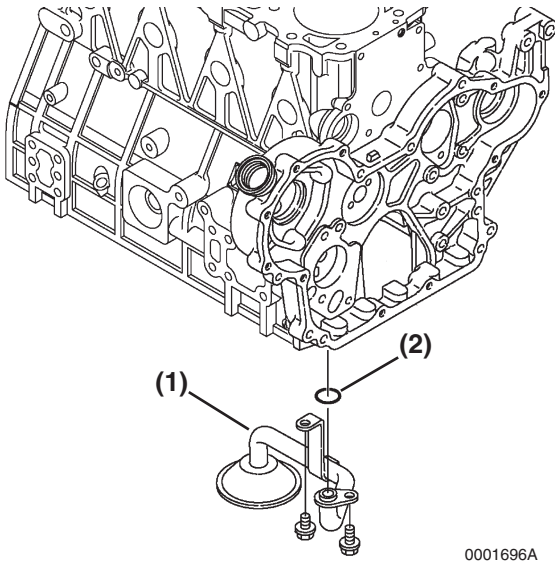

Figure 6-146
1. Reinstall the oil pickup tube (**Figure 6-146, (1)**) using a new O-ring (**Figure 6-146, (2)**).